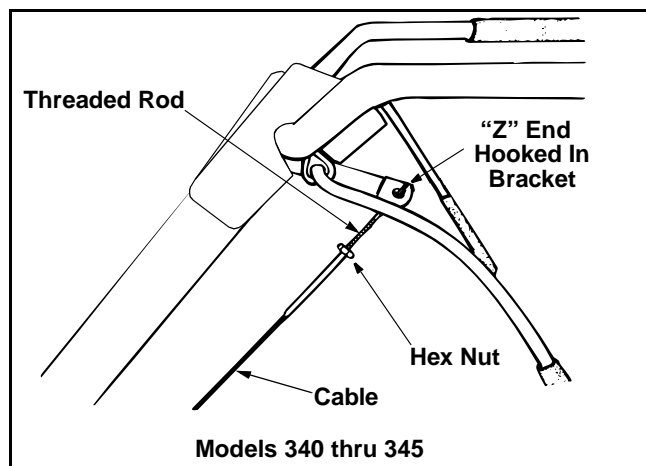

Figure 4
- Unthread the rod from the rest of the cable. Hook the "Z" end of the rod into the bracket underneath the handle assembly from the right hand side. See Figure 4.